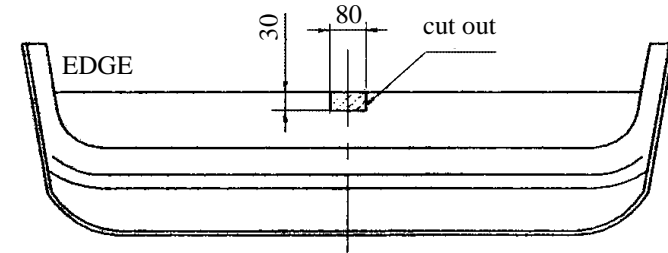

Fig. 2
2. To right chassis member fix bracket (pos. 5) using bolts M10x1,25x35mm (pos. 8) through holes (pos. A - loosely).
3. To left chassis member fix bracket (pos. 4) using bolts M10x1,25x35mm (pos. 8) through four holes (loosely), and through hole (pos. B) bolt M10x30mm (pos. 9). Use handle with nut M10 (pos. 6).
4. Between brackets (pos. 4 and 5) slip main bar of the towbar (pos. 1) and fix using bolts M12x35mm (pos. 7).
- rear muffer handle to element (pos. 5) through holes (pos. C).
- bumper, after his cut (see fig. 2.)
7. Fix body of the automat and place tow-ball according to supplied instruction. Note! Remember to place socket plate (pos. 3) as shown on the drawing 1.